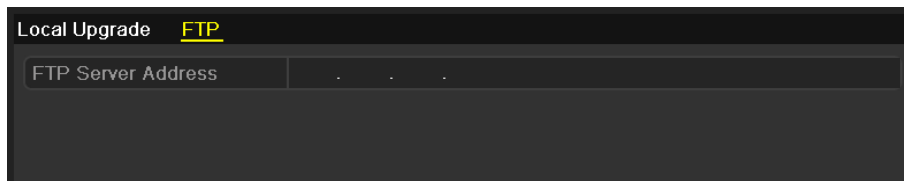

Figure 12. 13 FTP Upgrade Interface
2. Click the **FTP** tab to enter the local upgrade interface, as shown in Figure 12. 13.